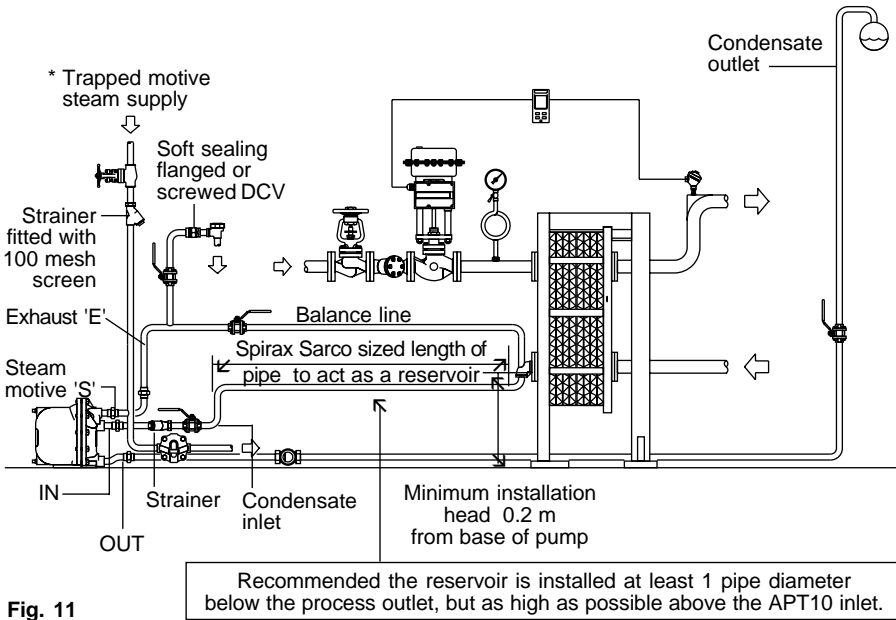

Fig. 11
To prevent condensate backing up into the equipment being drained, it is recommended that the inlet pipework is sufficiently sized to accumulate condensate during the pump's discharge cycle. Generally a length and diameter of pipe to accommodate 2 litres of condensate will be sufficient. It is recommended this condensate reservoir is situated at least 1 pipe diameter below the process outlet but as high as possible above the APT10 inlet. It is essential that a Spirax Sarco Y-type strainer with a maximum 0.8 mm perforation screen size is fitted at the condensate inlet of the APT10, as shown in Fig. 11.
The APT10 has four connection ports. The DN20 (¾") port marked (IN) should be connected to the outlet of the equipment being drained. The DN20 (¾") port marked (OUT) should be connected to the condensate return line. A flow arrow indicates the correct direction of flow. The DN15 (½") port marked (S) - steam should be connected to a trapped motive steam supply. * **It is important to ensure this line is drained of condensate at all times using a Spirax Sarco steam trap and filtered using a 100 mesh strainer.** The screwed DN15 (½") port marked (E) - exhaust should be balanced back as close as possible to the condensate outlet of the equipment. This balance line must always be connected to the top of the condensate pipe; as shown in Fig. 11.